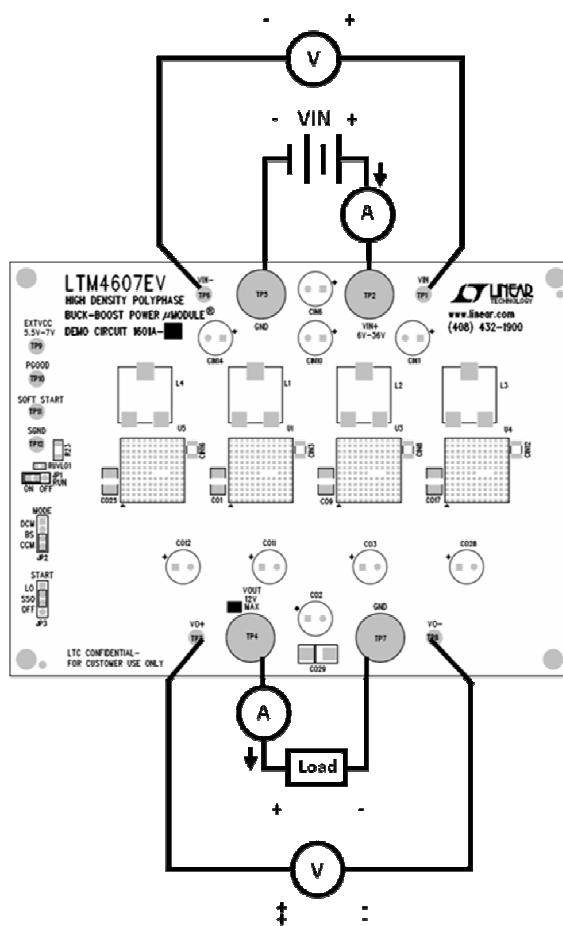

Figure 1.
Demonstration circuit DC1601A is easy to set up to evaluate the performance of paralleled LTM4607 modules. Please refer to Figure 1 for proper measurement equipment setup and follow the procedure below:
1. With power off, connect the input power supply, load, and meters as shown in Figure 1. Preset the load to 0A and V_{IN} supply to be 0V. Place jumpers in the following positions for a typical $12V_{OUT}$ application: